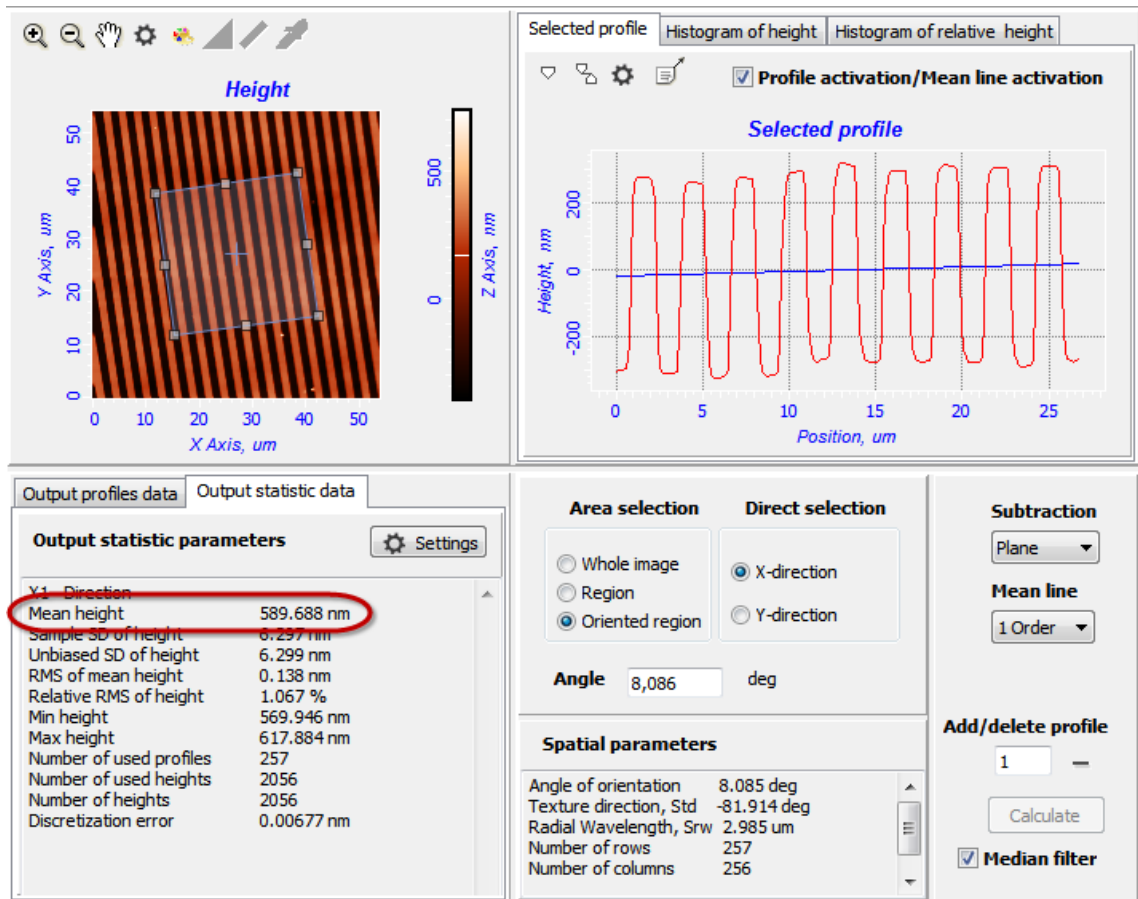

Fig. 1-23. Z Calibration window with results of calculation
- Height of the grating periodic profile (**Mean Height**) is displayed in the **Output statistic data** tab (see Fig. 1-23).